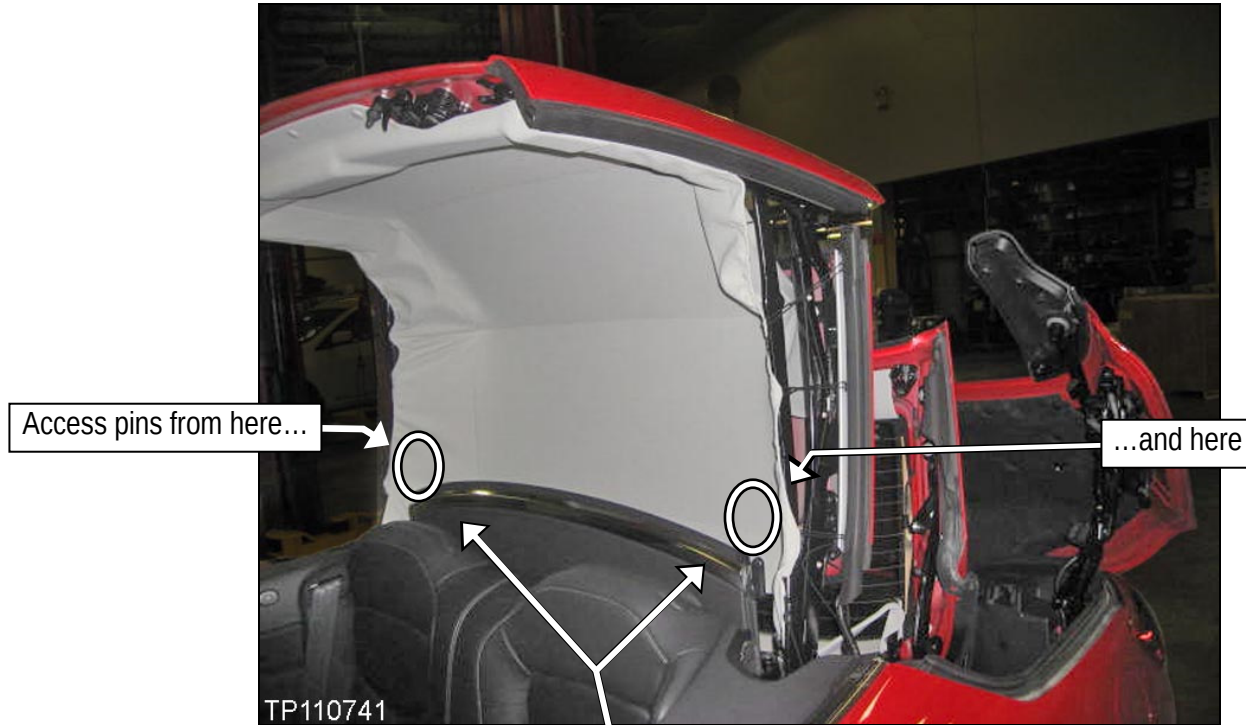

Figure 3c
c. Remove the three (3) T-30 Torx screws holding each roof panel pin.
- Both roof panel pins can be accessed by reaching inside the headlining where shown in Figure 3c.